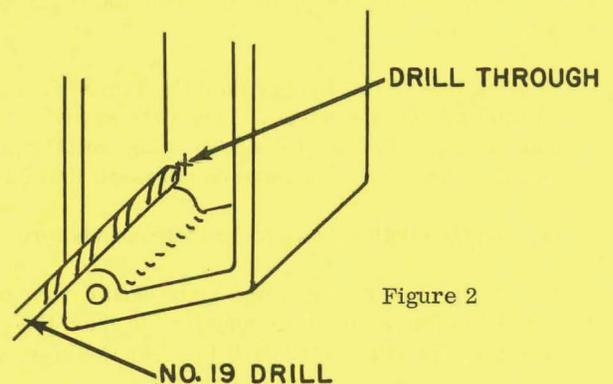

Figure 2
5. Locate the lower dowel pin boss in the cover and position a #19 drill along the top of the boss against the front side of the casting as shown in Figure 2. Drill through the cover at this point.